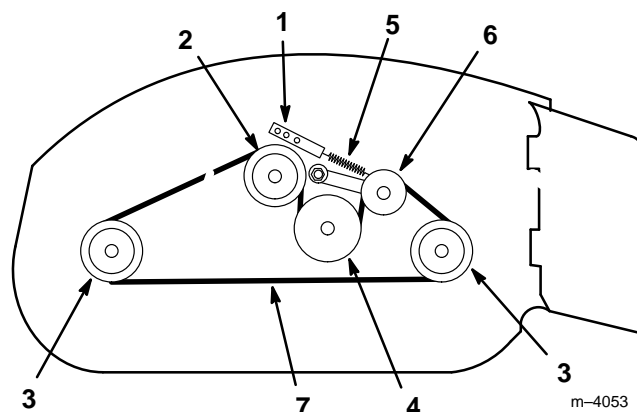

Figure 25
2. Grease the fittings on the three spindle bearings and the idler arm (Fig. 25).
3. Remove nut securing spring anchor to housing and lift spring anchor from bolt (Fig. 25).
4. Remove the worn mower belt (Fig. 25).
5. Install new mower belt around the three spindle pulleys, the idler pulley, and the gearbox pulley (Fig. 25).
6. Pull on the spring anchor and connect to anchor bolt (Fig. 25).